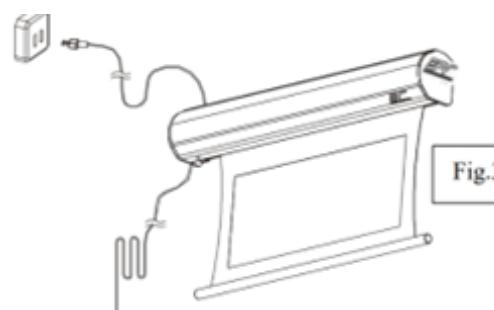

Fig.3
2. Wall box controller (Item B, Fig 3): The wall box controller switch is a wall mounted control box with an up/stop/down button. It plugs directly into the screen's RJ50 port.